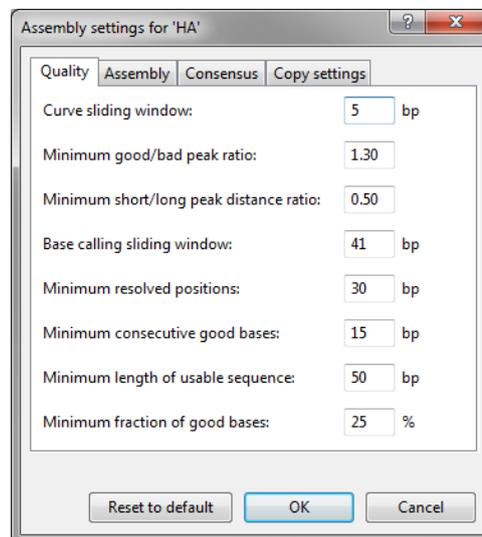

Figure 17: The Assembly settings.
24. Double-click on the **<Edit>** button for experiment **HA** to call the *Assembly settings* dialog box (see Figure 17).